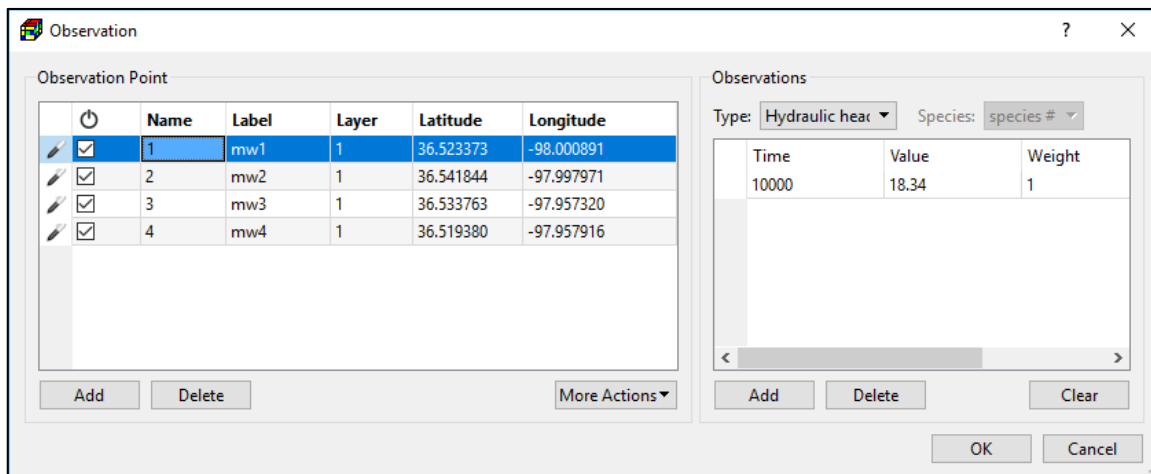

Figure 27. The Observation dialog box
- 2. Remove an observation point:** Right-click on the observation point in the Map Viewer to open the Observation dialog box (Figure 27), and then click Delete in the dialog box to delete the selected point.
4. **Enter/Edit observation data:** The Observation dialog box (Figure 27) can be used to enter and/or edit observation data. This dialog box can be opened by either right-clicking on an observation point in the Map Viewer or by right-clicking on the Observation Points group on the TOC, and then selecting Edit Data. The features of the dialog box are as follows.